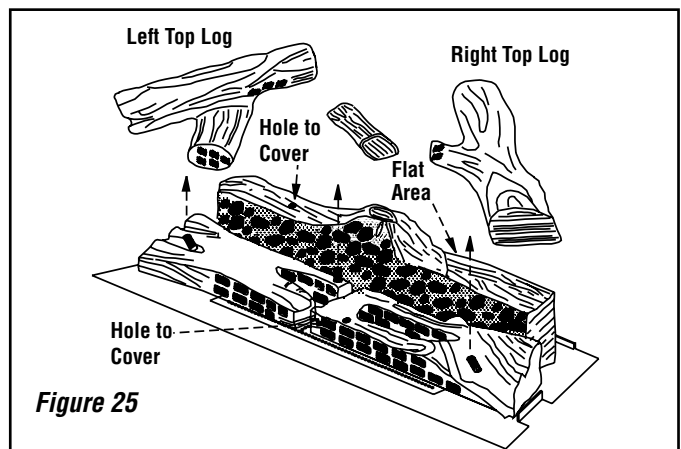

Figure 25
4. Rotate the left front log (3017 is cast into its bottom surface) so the charred black surface is toward the front and place it on the pegs protruding from the left side of the air control panel as shown in **Figure 25**.
5. The small straight top twig (3021) should be turned so the black flat end is turned toward the rear. Slide the holes in the bottom of this twig over the right peg on the left front log and the hole on the right front log. See **Figure 25**.
6. The left top log (3019) should be positioned as shown in **Figures 25 and 26**. Slide the holes in the bottom of this log over the hole in the left end of the rear log and the peg in the left end of the left front log. The right top log (3020) should be positioned as shown in **Figures 25 and 26**. Slide the holes in the bottom of this log over the peg in the right end of the right front log and rest it on the flat spot on the rear log.